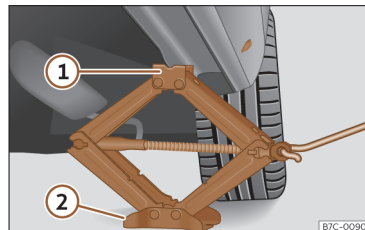

Fig. 207 Crossbar: mounting the jack on the vehicle.
- Turn the jack crank handle, located below the strut support point, to raise it until the tab **1** >>> **Fig. 207** is below the housing that is provided.